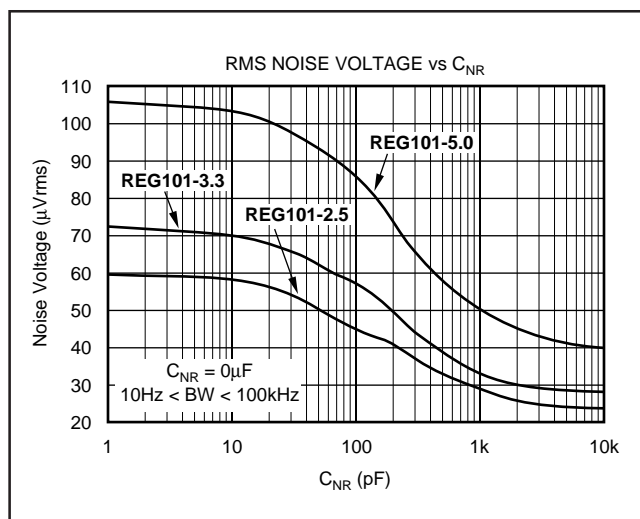
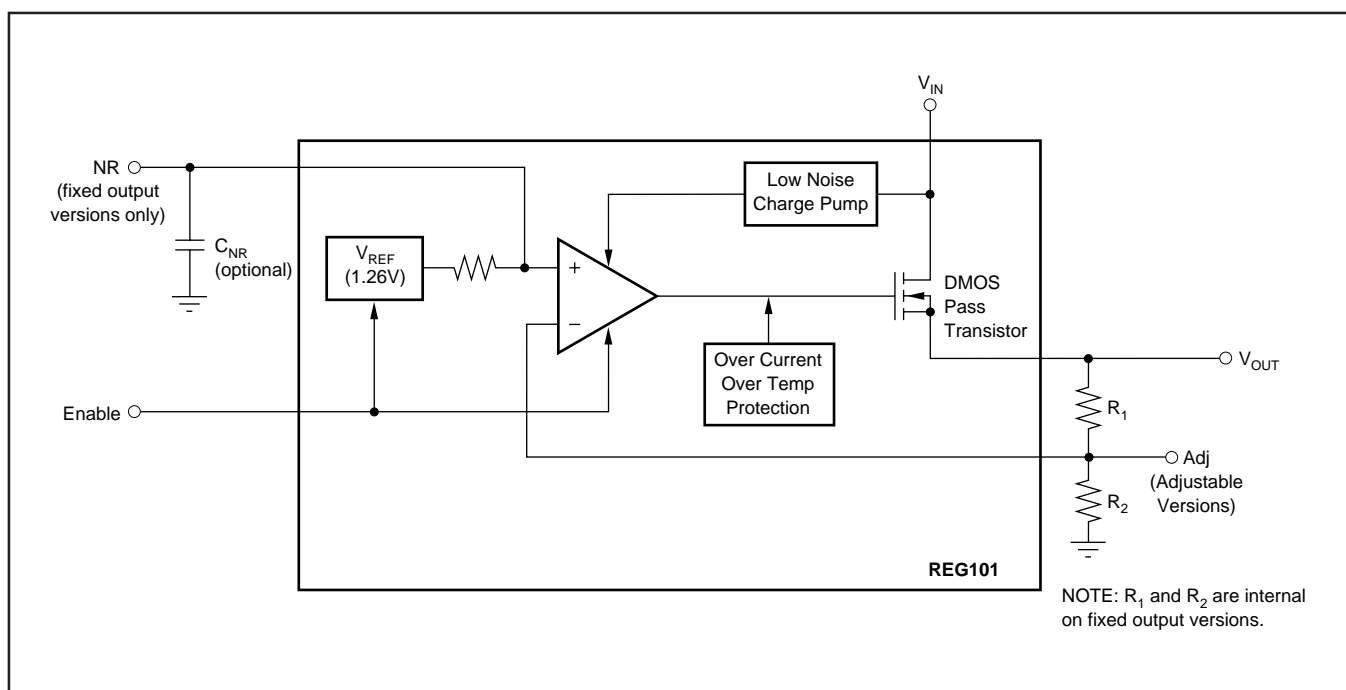

FIGURE 5. Output Noise versus Noise Reduction Capacitor.
FIGURE 4. Block Diagram.
Connecting a capacitor, C_{NR} , from the Noise Reduction (NR) pin to ground, as shown in Figure 4, forms a low-pass filter for the voltage reference. For $C_{NR} = 10nF$, the total noise in the 10Hz to 100kHz bandwidth is reduced by approximately a factor of 2.8 for $V_O = 3.3V$. This noise reduction effect is shown in Figure 5 and as “RMS Noise Voltage vs CNR” in the Typical Characteristics section.